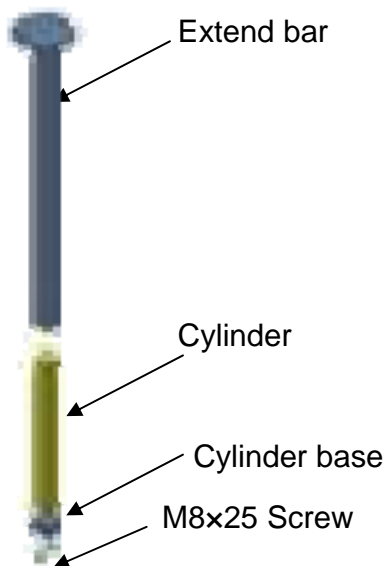
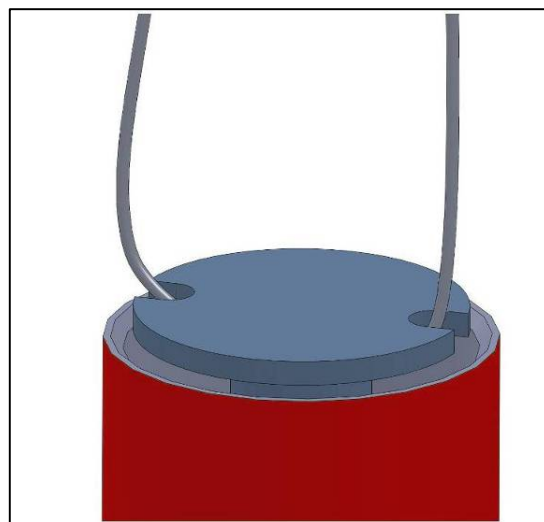

Figure 6.14
Figure 6.15
6.2.4 Cylinder, extend bar installation: Firstly install the extending bar, cylinder, cylinder base and socket head screw according to the figure 6.14. Then hang the extending bar with a strong cable sling, put the whole cylinder assembly into the pulling tower. See figure 6.15. Finally install the direct connector and female connector onto the cylinder. See figure 6.16